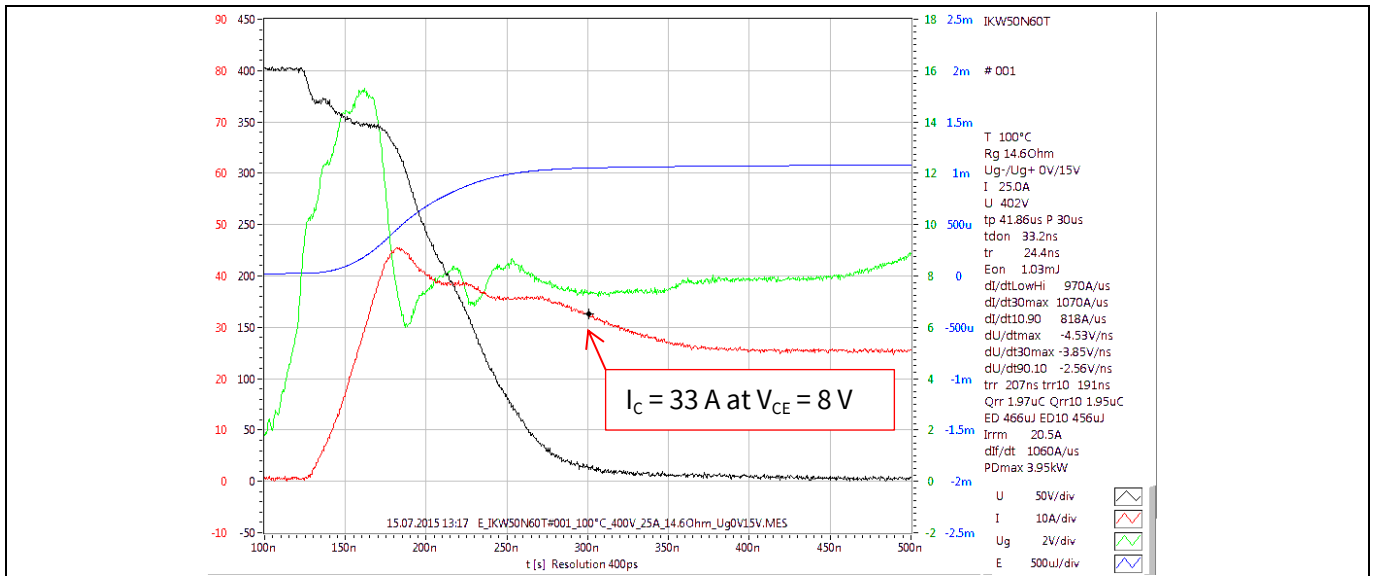
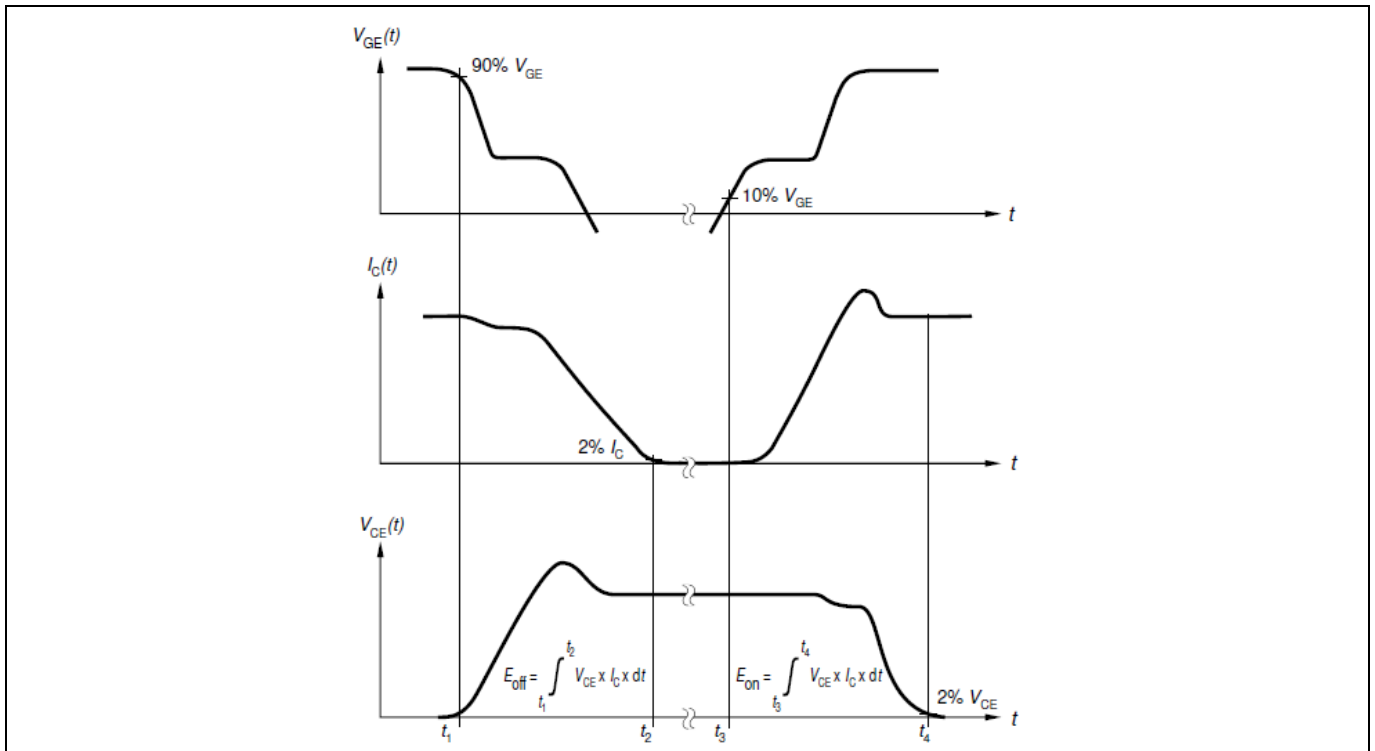

Figure 10 Turn on of IKW50N60T
Figure 12 Definition of switching losses according to datasheet
*Note: The turn on energy is calculated as shown in Figure 12 between the points  $V_{GE} = 10\% V_{GEon}$  and  $V_{CE} = 2\% V_{CEoff}$ . The collector current at the voltage  $V_{CE} = 8V$  ( $2\% V_{CEoff}$ ) is  $I_C = 26A$  for the IKW50N60DTP, but  $I_C = 33A$  for the IKW50N60T. Therefore the total IKW50N60T's turn on losses are slightly higher than the measured ones in this document, if the losses after  $V_{CE} = 2\% V_{CEoff}$  until  $I_C$  reaches  $I_C = 26A$  are considered too. For the example shown in Figure 10 the turn on losses increase by  $\approx 1.3\%$ , if the energy is calculated until the collector current  $I_C$  reaches the value  $I_C = 26A$ .*